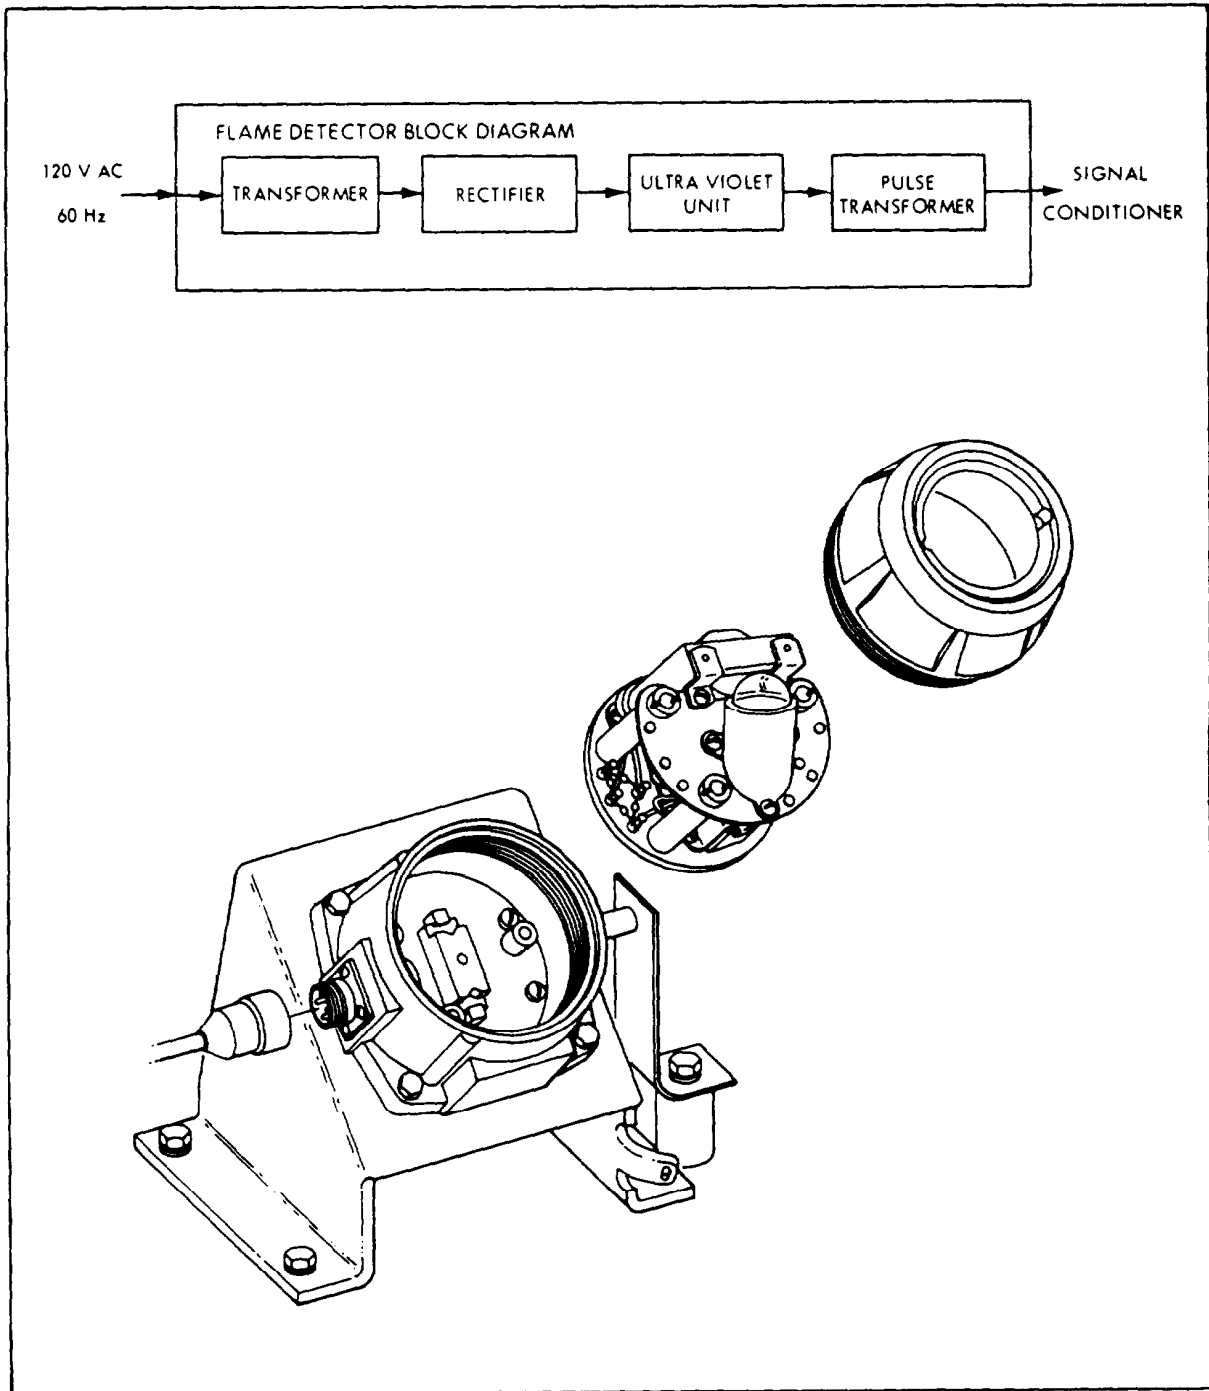

Figure 5-34.—Flame-detector block diagram and typical flame detector.
The flame detector (fig. 5-34) is an electronic tube that responds to UV radiation in ordinary flames. It is insensitive to infrared (IR) and ordinary visible light sources. The tube has two symmetrical electrodes within the gas-filled envelope. It operates on pulsating dc. Alternating